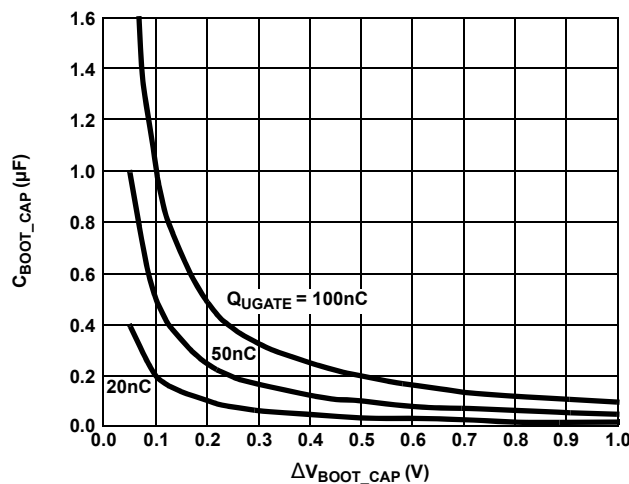

Figure 5. Bootstrap Capacitance vs Boot Ripple Voltage
- $\Delta V_{BOOT\_CAP}$  is defined as the allowable droop in the rail of the upper gate drive. Select results are exemplified in Figure 5 on page 9.